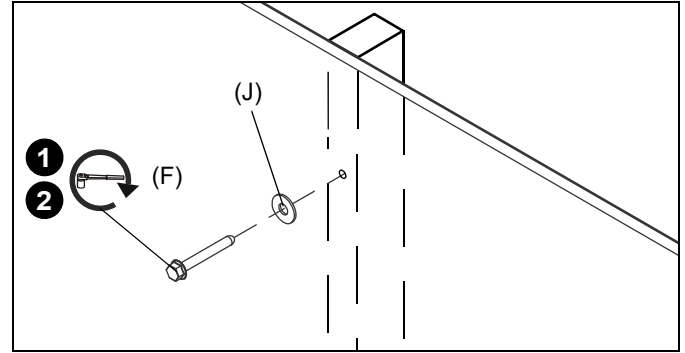

Figure 19
1. Use one 5/16" x 2-1/2" hex flange head lag bolt (F) and one 5/16" washer (J) through product and into pilot hole. (See Figure 19)